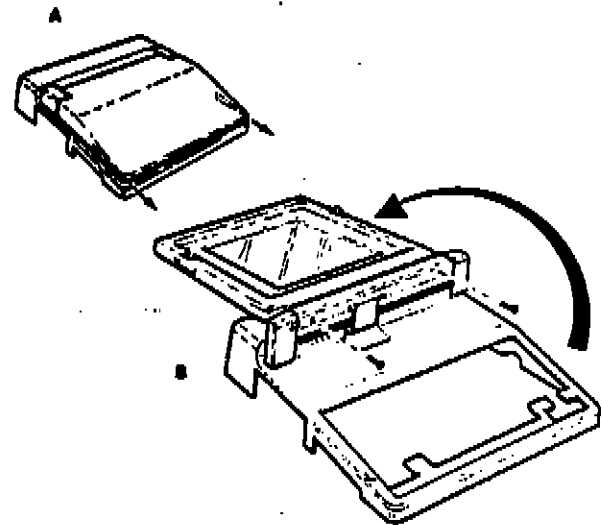

Figure 3-28. LCD Bezel Screws
3. Turn the display assembly over and rotate it from the computer top so the display is open all the way, as shown in Figure 3-28.
4. Remove the two screws from the LCD bezel, as shown in Figure 3-28.